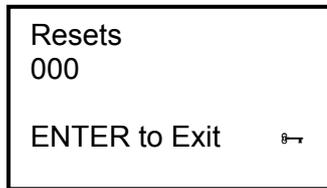

Figure 52. Display of DSP Reset Count
- In order to comply with BS5839 Part 8 the system indicates how many times the DSP has been internally reset since it was last powered up as shown in figure 52.